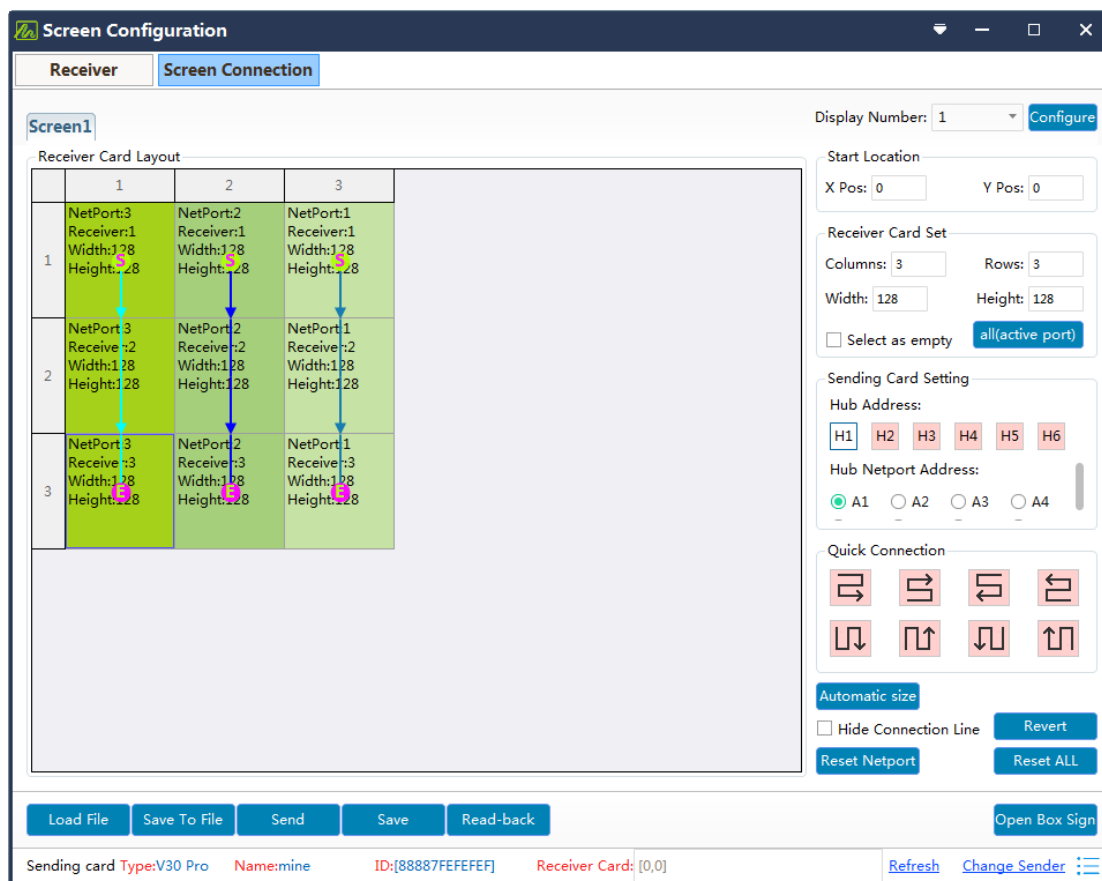

Figure 4-2-14 HUB-Screen Connection
- ① Check the “Connect Hub”
- ② Select the access network port of the sending card, configure the address of the “HUB”.
- ③ And then select “ HUB Address” to connect the screen, as shown in figure 4-2-14.